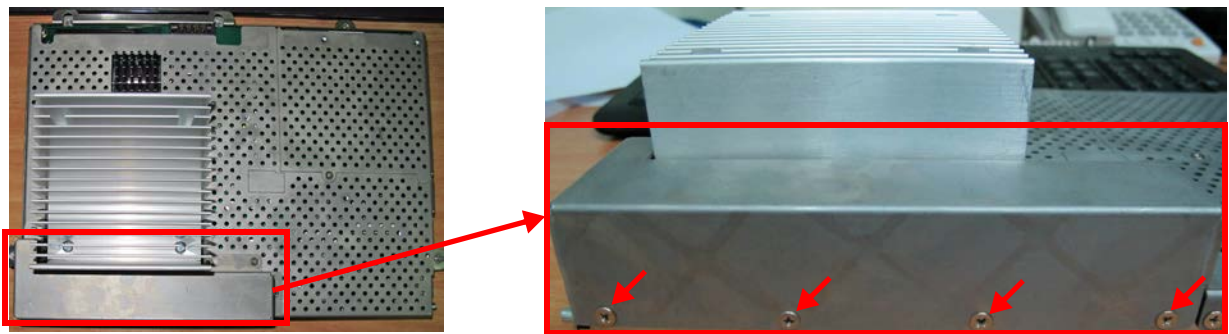

Figure 8-124 Module Memory DDR Replacement
The Module Memory DDR is located on the BEP (the obverse side that is not visible when opening the cage door to view the BEP). The front view of the BEP is shown in Figure 8-121 on page 8-96. The BEP has to be removed to access the Module Memory DDR, which is shown in Figure 8-124 below.
3.) Remove the Module Memory DDR cover by unscrewing 8 screws as indicated in Figure 8-124, above and Figure 8-125.